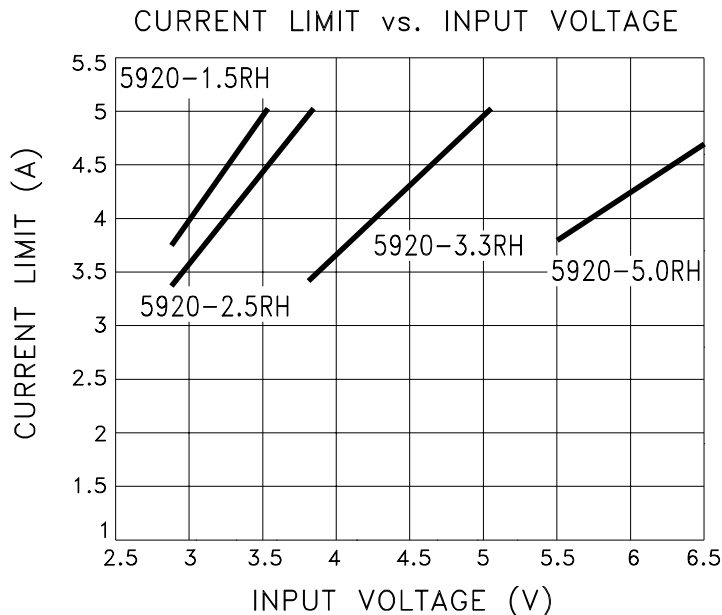

FIGURE 1
- ⑦ Output current limit is dependent upon the values of VIN and VOUT. See Figure 1 and typical performance curves.
- ⑧ Continuous operation at or above absolute maximum ratings may adversely effect the device performance and/or life cycle.
- ⑨ VIN shall be as specified or VIN min., whichever is greater.
- ⑩ Not applicable to versions where VIN = VIN Min.
- ⑪ Consult factory for post radiation limits.
The MSK 5920RH current limit function is directly affected by the input and output voltages. Figure 1 illustrates the relationship between VIN and ICL for various output voltages. It is very important for the user to consult the SOA curve when using input voltages which result in current limit conditions beyond 4.5 Amps. When using input voltages which result in current limit above 4.5 Amps, the user must maintain output current within the SOA curve to avoid damage to the device. Note that 5 Amp maximum is due to current carrying capability of the internal wirebonds.